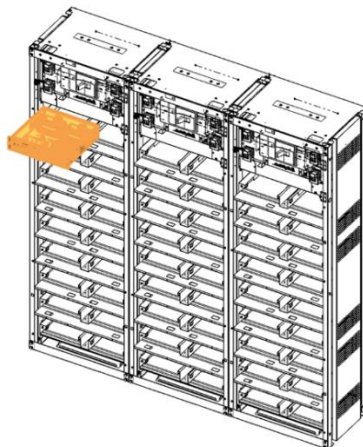

Figure 3-22: Inserting SMPS Assembly
4. Insert the SMPS Assembly into the rack frames as shown in Figure 3-22: Inserting SMPS Assembly.